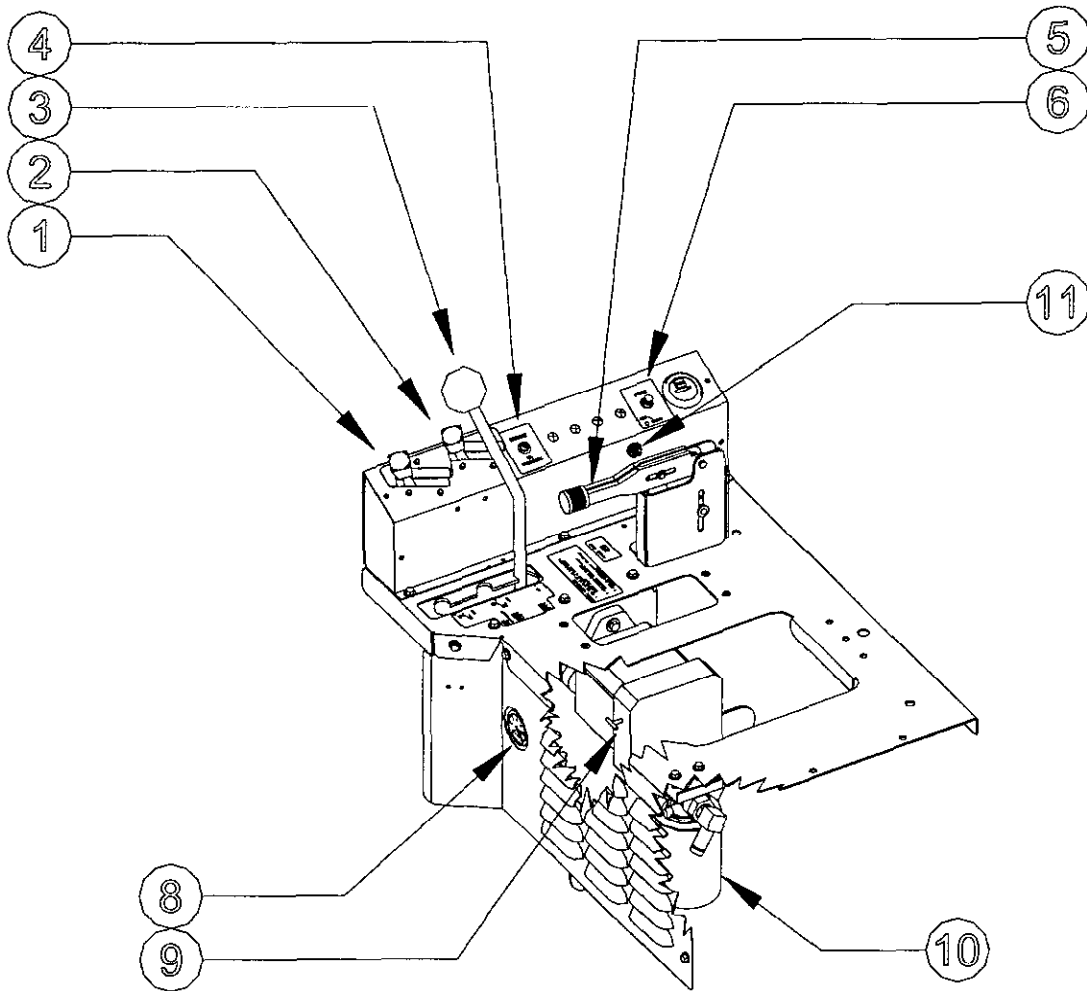

Figure 5
Choke (Fig. 5) — To start a cold engine, move the choke control forward to close the choke. After engine starts, regulate choke to keep engine running smoothly. As soon as possible, move the choke backwards to open the choke. A warm engine requires little or no choking.
Throttle Control (Fig. 5) — Throttle is used to operate engine at various speeds. Moving throttle forward increases engine speed; backwards decreases engine speed. The throttle regulates the speed of the sweeper reels and in conjunction with traction pedal controls ground speed of the sweeper.
Engine Oil Pressure Warning Light (Fig. 5) — Light glows if engine oil pressure drops below a safe level while engine is running. If light flickers or remains ON, stop machine, turn off engine and check oil level. If oil level is low, but adding oil does not cause light to go out when engine is restarted, turn off engine immediately and contact your local Authorized TORO Distributor/Authorized TORO Landscape Contract Equipment Dealer for assistance.
Ignition Key Switch (Fig. 5) — The key switch, which is used to start and stop the engine, has three positions: OFF, RUN, and START. Rotate key clockwise (START) to engage starter motor. When engine starts, release key and it will move automatically to the ON position. To shut engine off, rotate key counterclockwise to the OFF position.
Fuse: (Fig. 5) — Provides 5.0 amps ignition circuit protection. If fuse is blown the engine will not crank.
Hour Meter (Fig. 5) — Indicates total hours of machine operation. The hour meter starts to function whenever the key switch is rotated to the ON position.
Reel PTO Engagement Handle (Fig. 5) — The engagement of the sweeper reels is done with the Reel PTO Engagement handle. The handle also sets the height of the fingers. There are two settings for finger height. The height of the fingers is set so the fingers touch the top of the turf. The first setting will set the fingers at 1-1/4 inch from the surface. The second setting sets the fingers at 5/8 inch from the surface.
Hydraulic Vacuum Gauge (Fig. 5) — When the hydraulic oil filter becomes dirty the vacuum level within the hydraulic system will increase. Check vacuum gauge after each day's operation and before shutting off engine (refer to Changing Hydraulic Oil and Filter, page 24).
Tow Valve Knob (Fig. 5) — The tow valve knob is located in the front of the hydraulic pump. With the knob turned fully clockwise the machine is in the operating position. With the knob turned 1/2 turn counterclockwise the machine is in towing position. After completion of towing operation, and before starting engine, close tow valve securely by rotating fully clockwise. Do not exceed 5 – 8 ft. lb. torque.
Parking Brake (Fig. 5) — Whenever the engine is shut off, the parking brake must be engaged to prevent accidental movement of the machine. To engage the parking brake, pull back on lever. To release the parking brake push forward on lever. Make sure parking brake is released before moving machine. If the machine is parked on a steep grade, make sure parking brake is applied.
2. Rotate tow valve knob 1/2 turn counterclockwise (Fig. 5, Item 9).